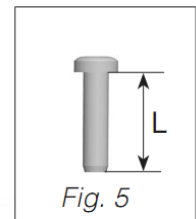
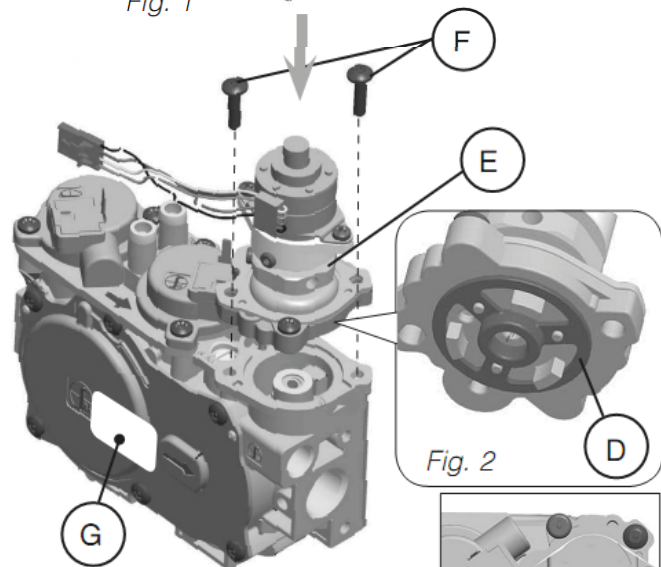

Fig. 5
Fig. 3
- 4** Install the new STEPPER MOTOR pressure regulator assembly, as shown in Fig. 3 and Fig. 4. Use the supplied screws (F), M4 x 0.7 threaded, length of thread $L=(16\text{ mm} + 0 - 0.5\text{ mm})$, steel material, resistance class 8.8 (see Fig. 5).